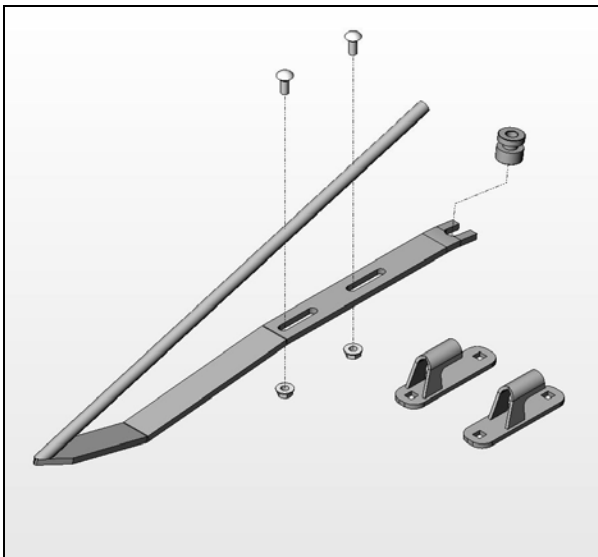

Figure 1
Step 1 – Ensure all of your parts are in the box – See Figure 1